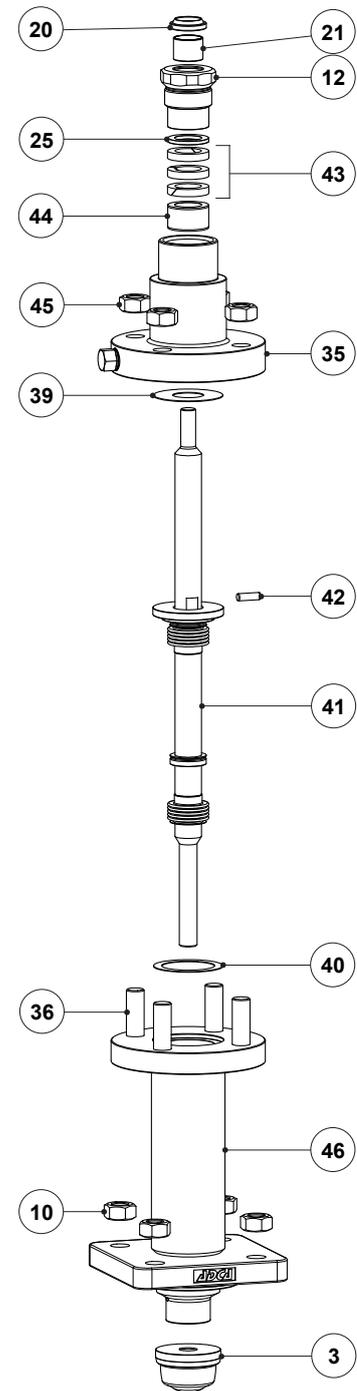

Fig. 13 - Bellows sealing (BG1)
1. Undo the nuts (45) gradually in a crisscross pattern and separate the bellows bonnet (35) from the bellows housing (46).
2. Unscrew the packing nut (12) and remove it carefully together with the O-rings (22, 23).
3. Pull out the washer (25), graphite packing set (43), and spacer (44) using a suitable tool.
4. Clean the packing box, insert the spacer (44), and the new graphite packing set (43) rings one by one. When fitting the graphite rings ensure the scarf joints have an offset from the one below by 90°. See Fig. 13.
5. Renew the scraper ring (20) and plain bearing (21) if necessary.
6. Fit the washer (25), apply a slight smear of anti-seize lubricant to the plain bearing (21), and screw it loosely with your fingers until resistance can be felt. The packing must not be significantly compressed at this stage.
7. Undo the nuts (10) gradually in a crisscross pattern and separate the bellows housing (46) from the valve body (1).
8. Firmly fix the valve plug (3) on a vise, fit a wrench on the two slits close to the locking pin (42), and unscrew the plug (3) from the stem (7).
9. Remove the valve stem (7) with the bellows (41) from the bellows housing (46).
11. Fix the new valve plug (3) on a vise with the thread facing up. The vise jaws should be gripping the plug section with the largest diameter.
12. Fit a new gasket (39) and insert the new bellows (41) on the bellows housing (46).
13. Apply a suitable high-temperature adhesive compound on the lower stem (7) thread and screw it onto the seat, tightening with 50 Nm (DN 15 to 50 – 1/2" to 2") and 120 Nm (DN 65 to 100 – 2 1/2" to 4").
14. Insert the pin (42) onto the stem (7) and fit a new gasket (39).